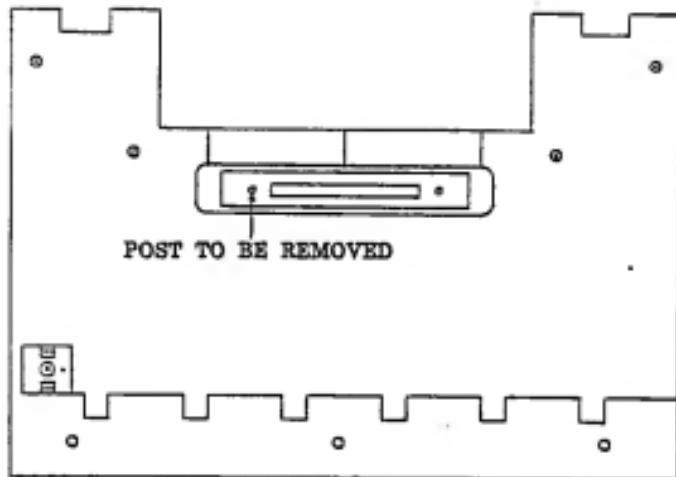

Figure 5. Top Cover Pin Removal
9. Using needle-nosed pliers, grasp the pin indicated in Figure 5, and twist it off.